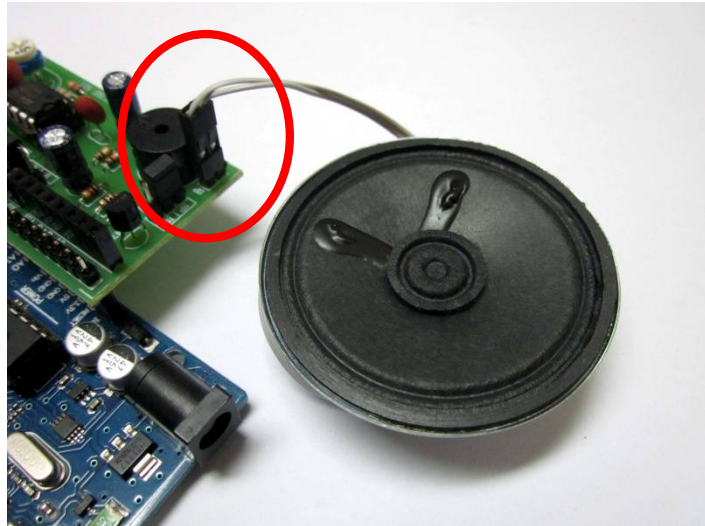

Figure 15. Connecting the voice coil speaker
4. Download LAB1419-1 program to Arduino board. After downloading, the sound from Buzzer Speaker will ring “Beep” rhythmically which means Buzzer Speaker is functional. In case of using Voice Coil Speaker, insert the jumper at JP3 point on SP position and connect the speaker with SP position (please see Figure 15).